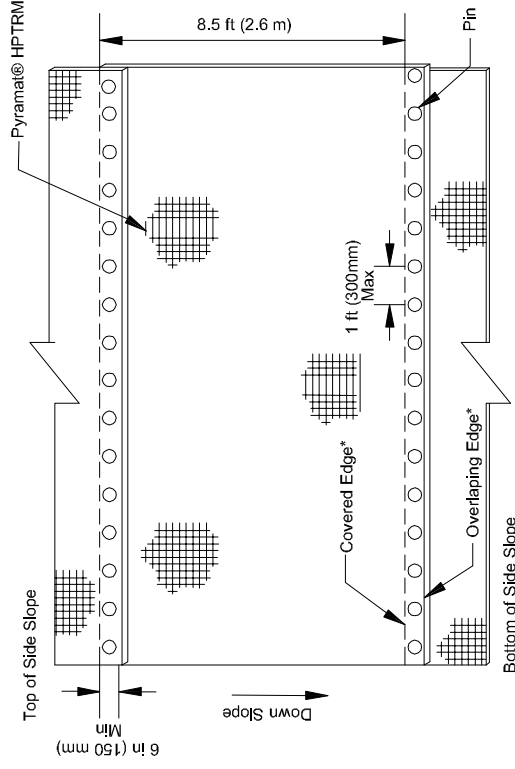

FIGURE 4: PYRAMAT® HPTRM OVERLAP AT ROLL EDGE DETAIL
- Roll edge overlap: 6 in (150 mm) minimum overlap with upstream mat on top. Secure with one row of ground pinning devices on 12 in (300 mm) centers (see Figure 4).